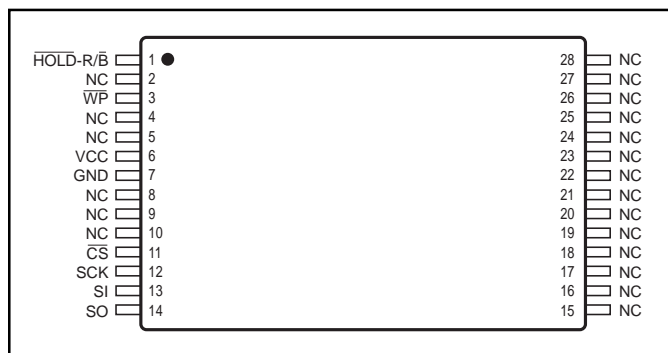

Figure 3. IS25F011A, IS25F021A, and IS25F041A
The IS25F011A, IS25F021A, and IS25F041A are available in a 28-pin TSOP (Type I) surface mount package. See Figure 3 and Table 1 for pin assignments. All interface and supply pins are on one side of the package. The “No Connect” (NC) pins are not connected to the device, allowing the pads and the area around them to be used for routing PCB system traces. The devices are also available in a cost-effective and space-efficient removable Serial Flash Module package.